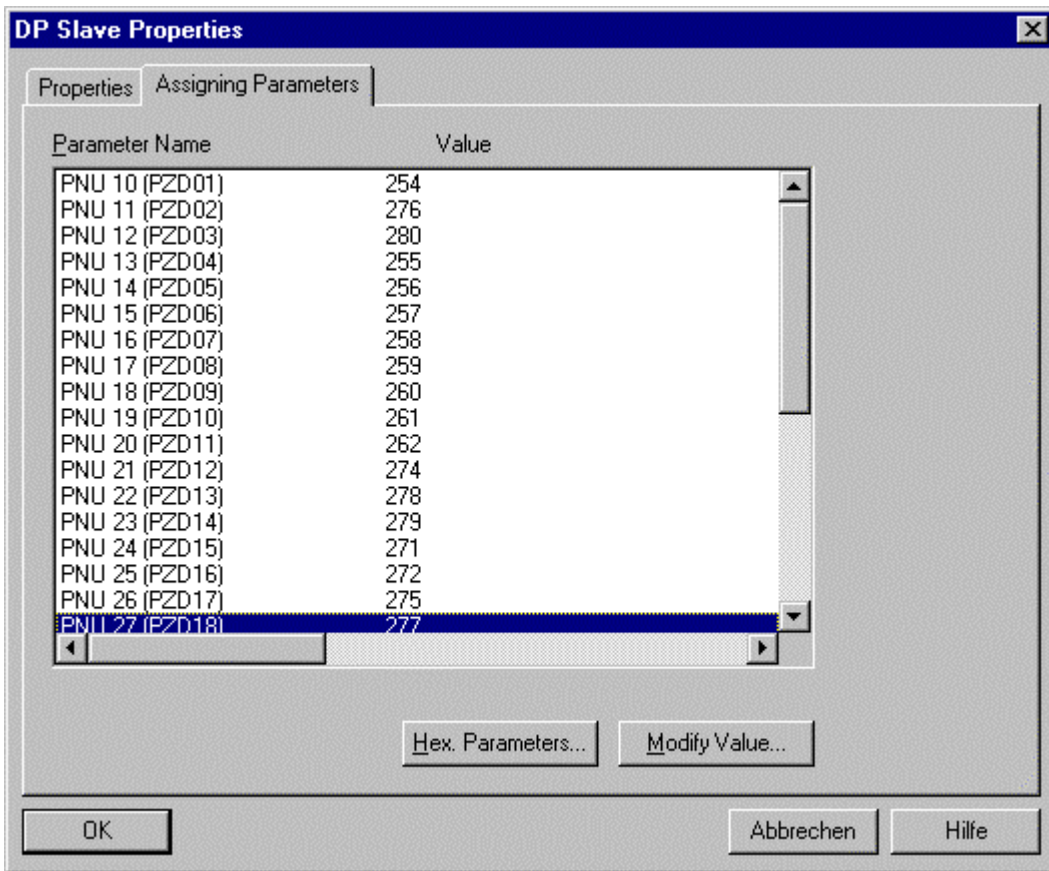

Figure 5
- Double-click the SIPART DR 21 icon and select the **Parameterization** tab. Select the **Change value...** button or double-click the line concerned and then enter a value (Figure 5).